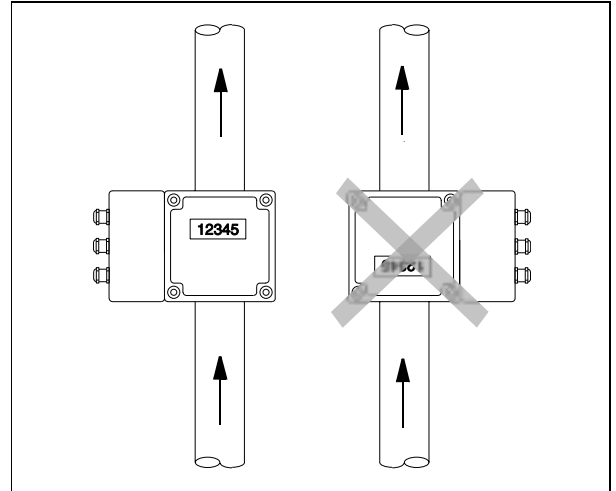

Fig. 4
- vertical** pipelines the cable connectors (for the interconnections) must **point to the left** as viewed by the operator (Fig. 4).
Vertical installations are ideal when the fluid flows in an upward direction. Installations in drop lines, i.e., the fluid flows from the top to the bottom are to be avoided because experience has shown that it is not possible to guarantee that the pipeline will remain 100% full and that an equilibrium condition between the upward flowing gas and the downward flowing fluid will not occur (Fig. 4). For vertical installations the cable connectors should point to the left (as viewed by the operator) otherwise the clockwise rotated display will be upside down.